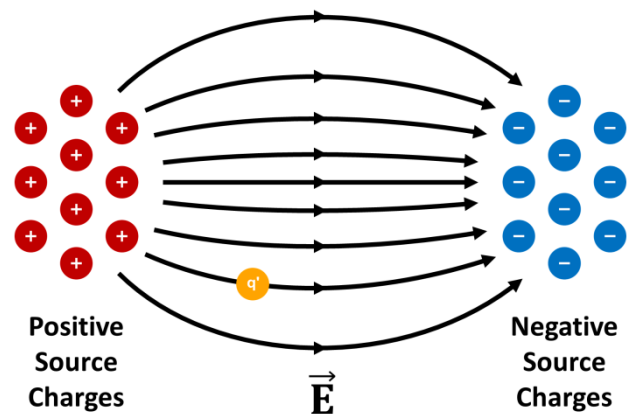

Fig. 1: Place a test charge, q' , in an electric field, E , and it experiences a force, $\vec{F} = q'\vec{E}$.
The force (and field) are produced by various distributions of surrounding source charges (see Fig. 1). Units of force are Newtons (N) and units of charge are Coulombs (C), thus, the units of electric field are Newtons/Coulomb (N/C). The direction of the electric field (vector) is in the same direction as the force on a positive test charge.